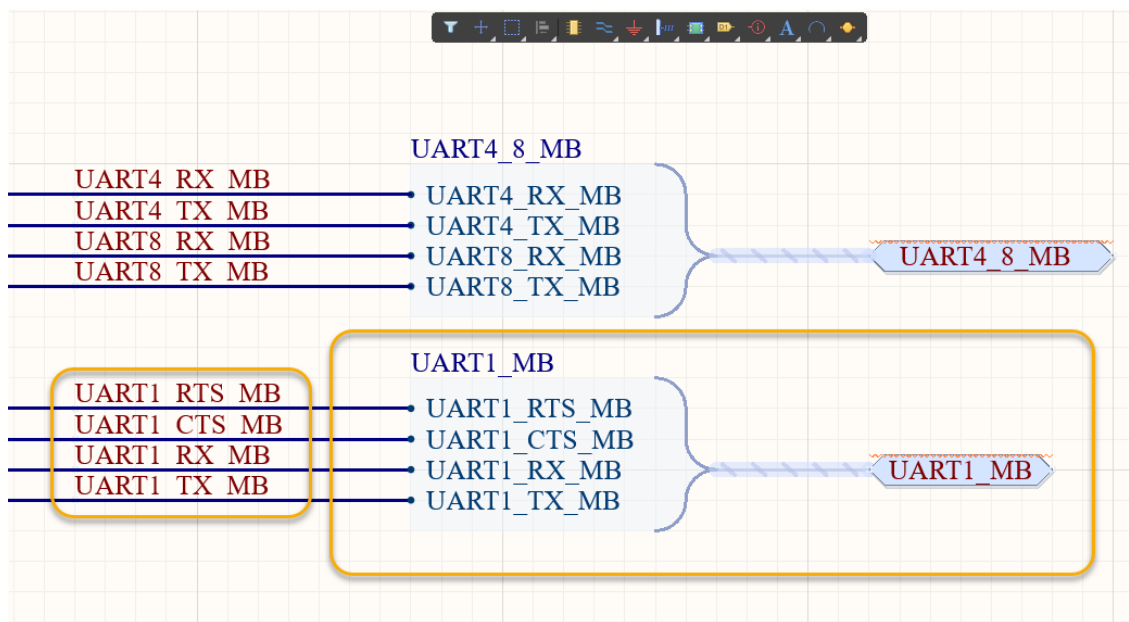

Figure 16. UART1_MB at 6_uart_esc_i2c.SchDoc
40. Left-click to place it onto the UART1 wires, as shown in Figure 16.